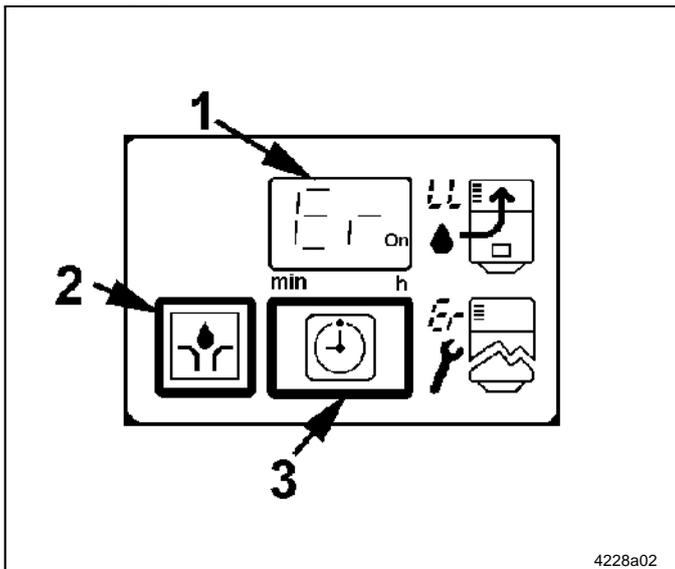

Fig. 25 Membrane keypad with fault indication and operator keys
- ➔ The fault can be confirmed (see pos. 3, Fig. 25). However, this is not obligatory.